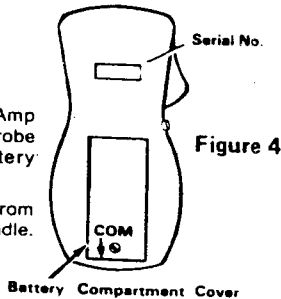

Figure 4
- 1) loosen screw located toward the bottom on the back of the instrument. (See Fig. 4)
- 1) Insert one insulated voltage test lead connector into the right hand (viewing instrument from front) voltage receptacle in the bottom of the instrument. Looking at the back of the instrument, this voltage receptacle is marked "COM". (see Fig. 4).